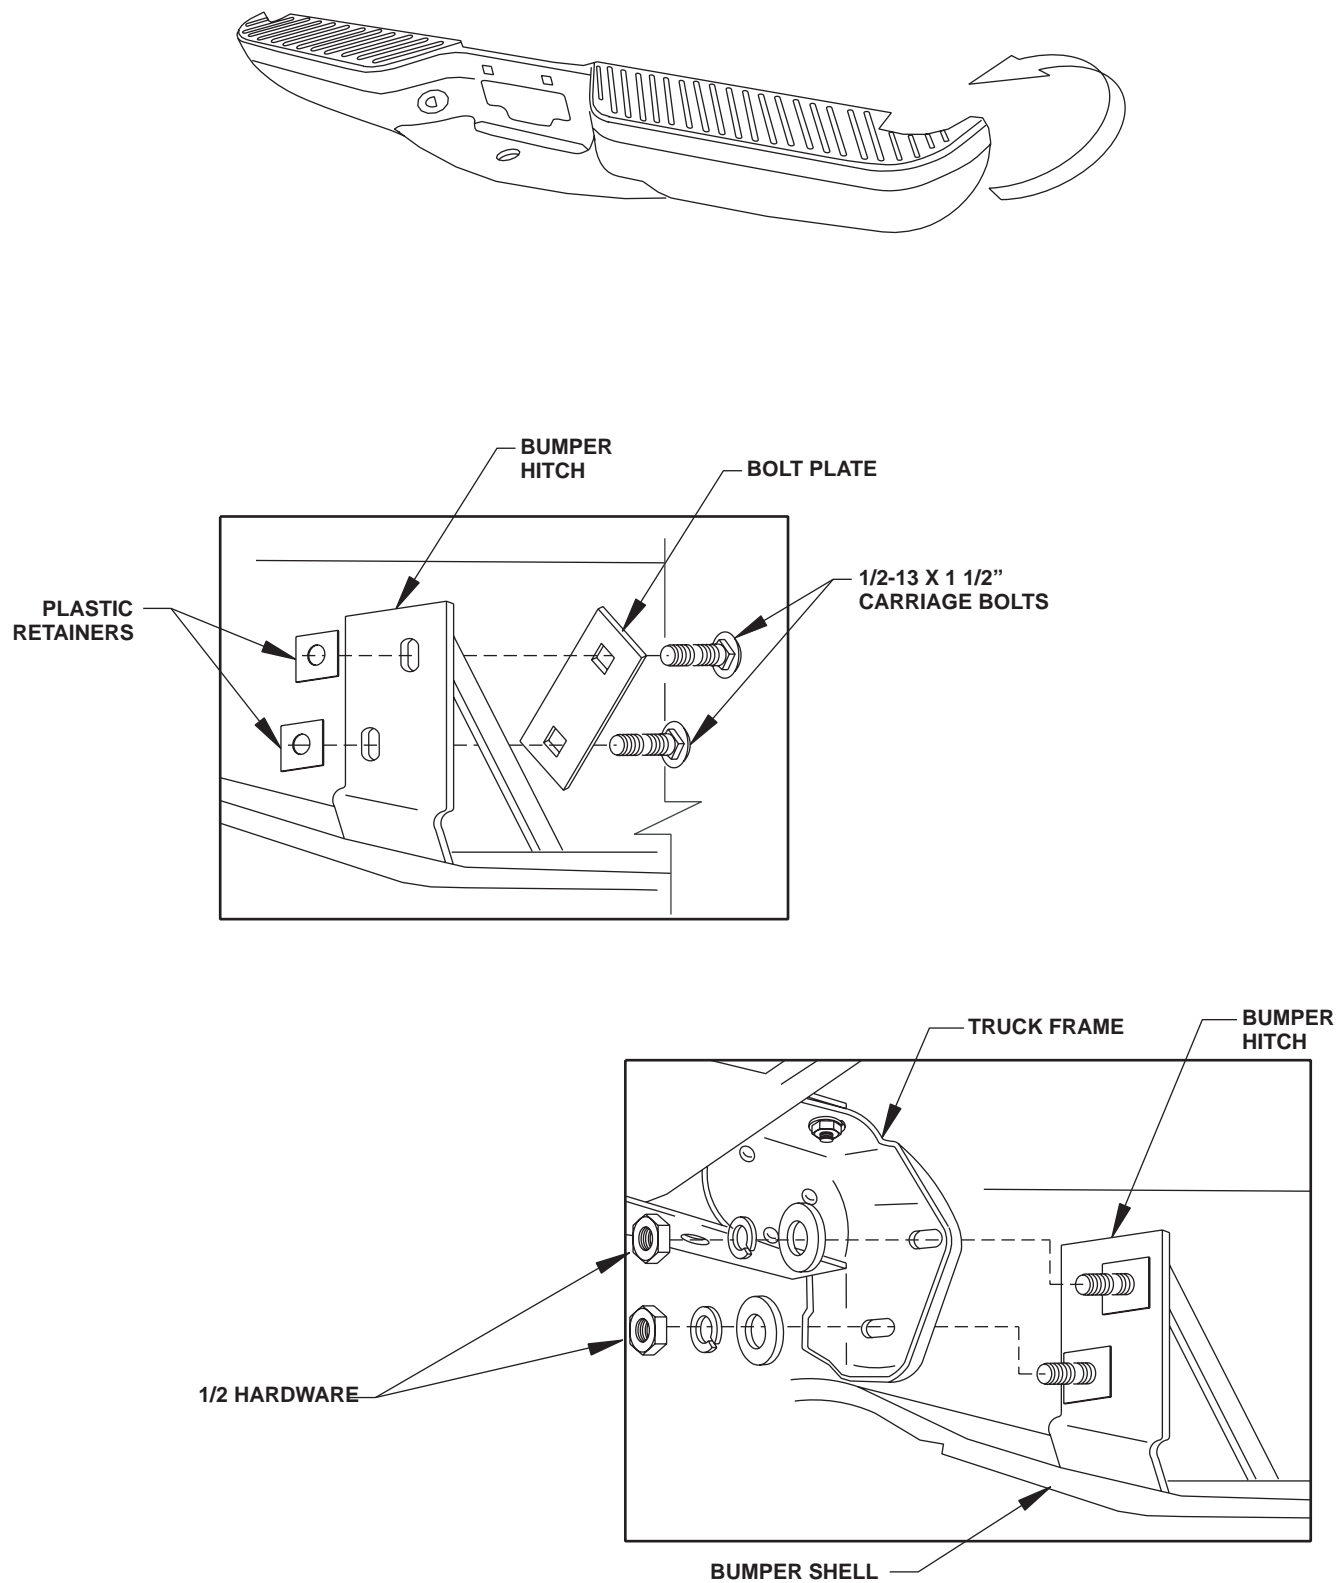

FIGURE 1 (PASSENGER SIDE VIEW)
- STEP 1:** Align bolt plates with mounting holes in the bumper (bolt plates go on the inside of the bumper hitch). Pass carriage bolts through the bolt plate and bumper hitch so that the bolts protrude from the bumper. Place plastic retainers on the carriage bolts to hold the assembly in place for ease of installation. Refer to Figure 1.
- STEP 2:** Align bumper so the carriage bolts pass through the frame holes of the truck. Use the 1/2" washer, lock washer and hex nut to secure the bumper. Hand tighten hardware. Refer to Figure 1.